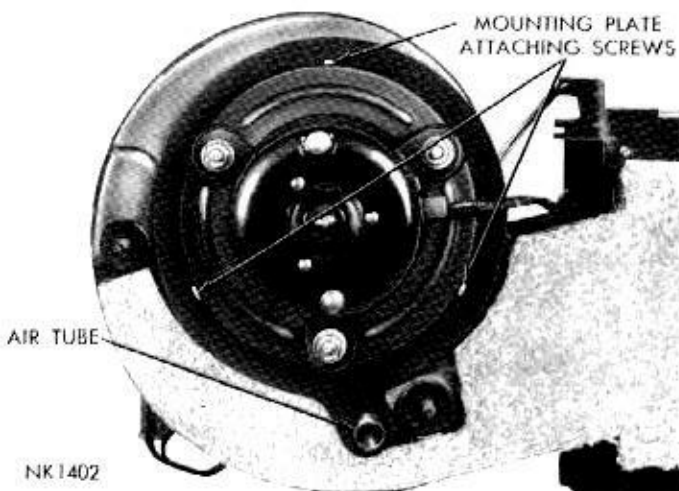

Fig. 20—Blower Motor Installed
- (1) Disconnect feed wire at the connector and the ground wire. Remove air tube.
- (2) Remove the three sheet metal screws located on the outer surface of mounting plate (Fig. 20).
- (3) Remove mounting plate, blower motor and fan as an assembly.